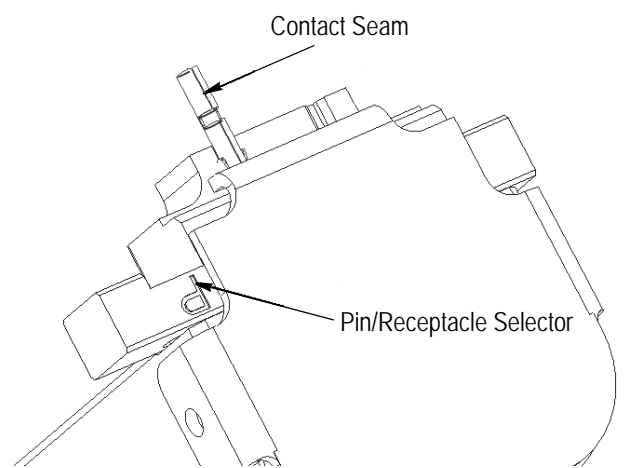

Figure 3
3. Be sure the flip locator is in the load position (see Figure 3).